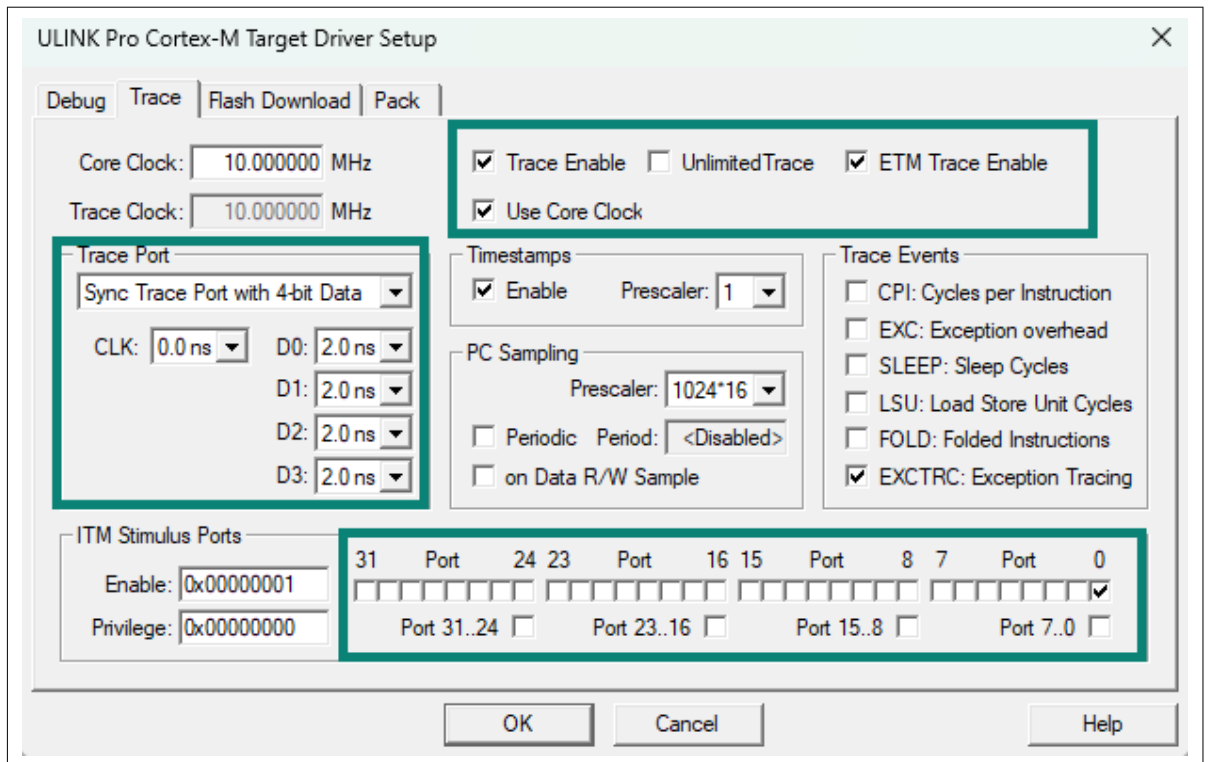

Figure 26 Configurations in Debug > Trace tab
5. Select the **Trace** tab and configure the settings to match Figure 26